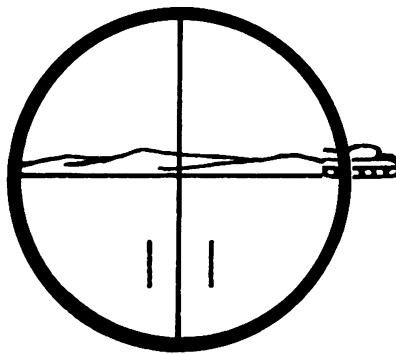

Figure 8.
c. If there are no covered areas (figure 8), there is enough time to fire and hit the target. The target IS engageable.